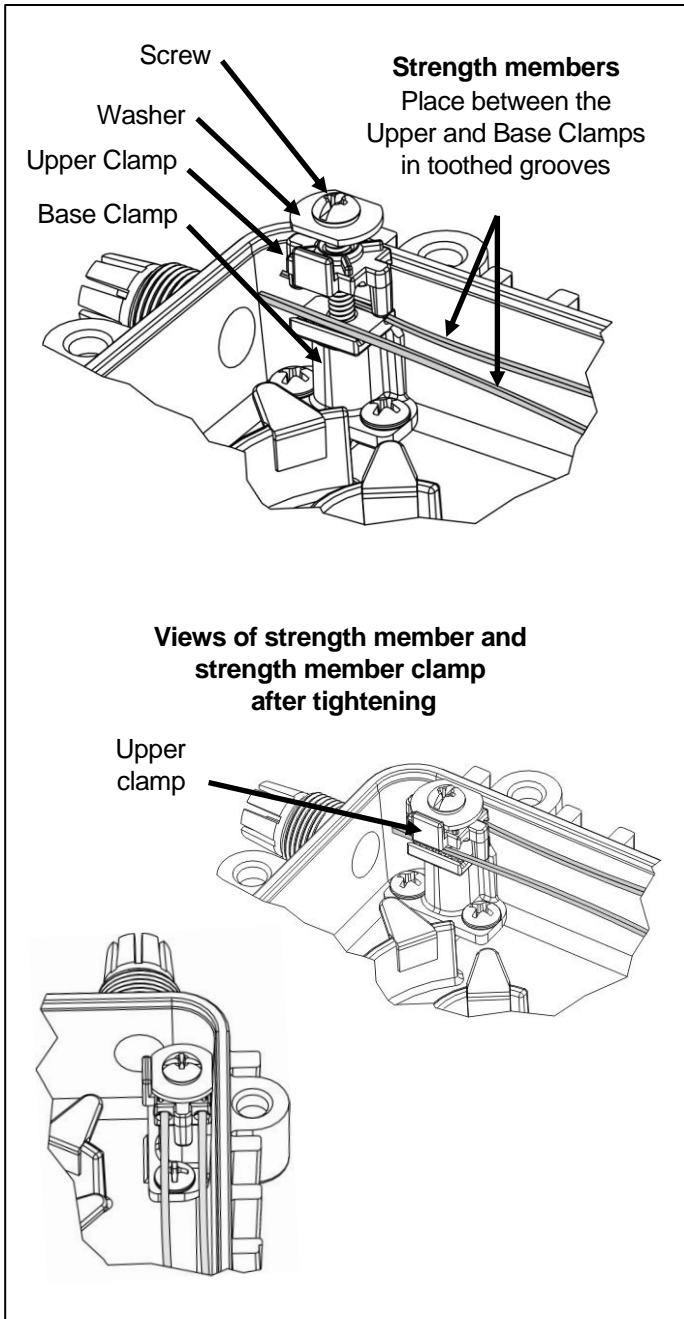

Figure 9. Strength member clamp
- The proper attachment of the drop cable's strength members to the LOC-DROP's strength member clamps, Figure 9.
The LOCDROP strength member clamp assembly (Figure 9) is constructed of four components: Base Clamp, Upper Clamp, washer, and screw.
- ① Loosen the screw on the top of the strength member clamp so it protrudes approximately 1/4-inch. Lift up from the upper clamp to open a gap between the Upper and Base Clamps.
- ② Referencing Figure 9, lay the two strength members between the Upper Clamp and Base Clamp, ensuring the two strength members are positioned in the toothed grooves. Tighten the screw to a torque of 10-12 in-lbs.
- ③ Trim the excess strength member.
- ④ Repeat for the second drop cable.